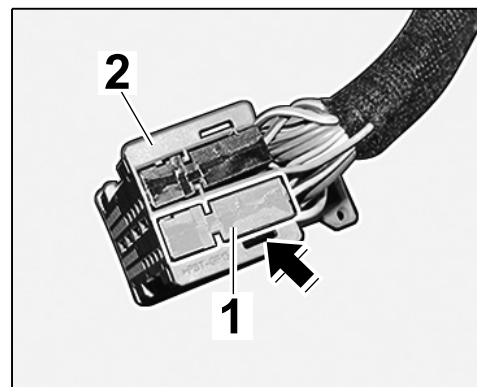

Figure 28
- 3.3.2 Press down the locking mechanism ⇒ *Figure 28 -arrow-* and slide the grey plug socket ⇒ *Figure 28 -1-* out of the plug carrier ⇒ *Figure 28 -2-*.